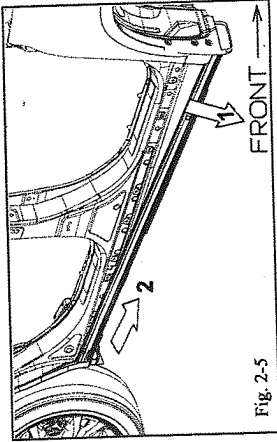

Fig. 2-5
- (f) Pull the front of the rocker panel molding down and out, then pull forward releasing the rear from the fender molding (Fig. 2-5).
**▲ NOTE:** Ensure all eight (8) clips from Step 2(e) are removed from the rocker sheet metal.